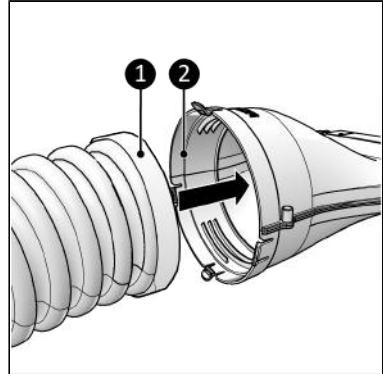

Figure 103.
- With a click system, for a hose with a collar (Figure 103, pos. 1).
1. Insert the air conditioning hose (Figure 103, pos. 1) into in the main body (Figure 103, pos. 2).